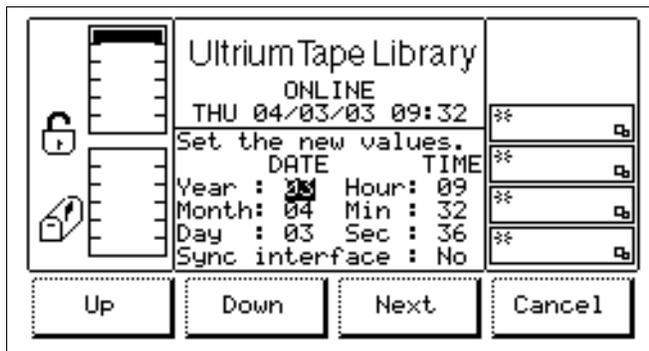

Figure 15-8 IBM 3583 Operator Panel: Input field
- ▶ Most fields on the menus, submenus, dialogs, and screens are read-only. Fields that are writable are shown in reverse video (Figure 15-8).